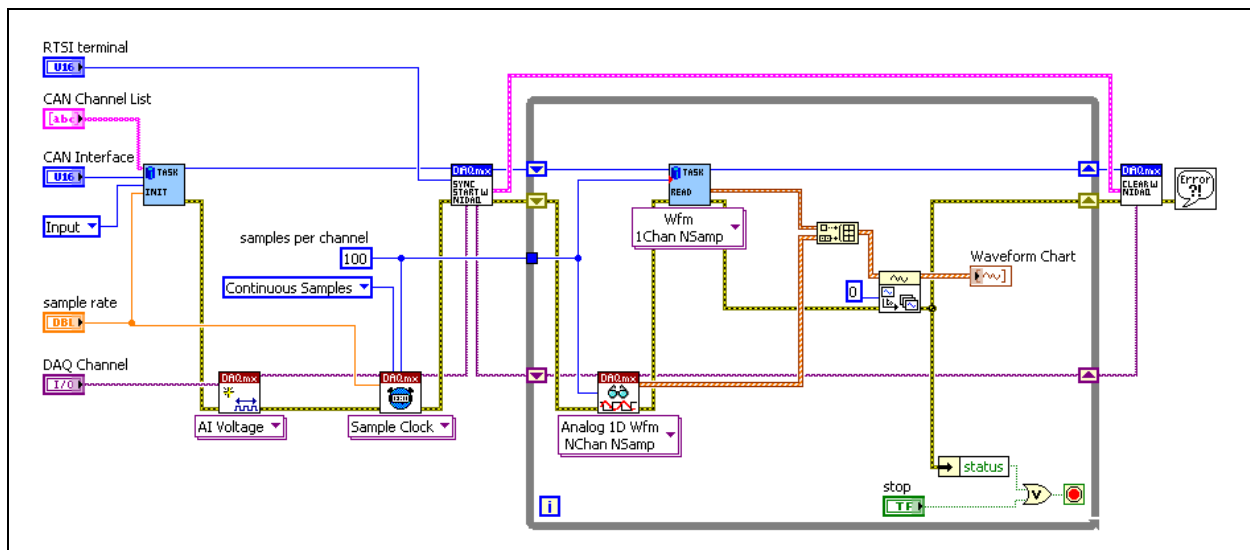

Figure 1-21. Sync CAN & DAQ VI Block Diagram
3. Explore the block diagram shown in Figure 1-21. Notice that this VI reads from both the CAN and DAQ interfaces and uses RTSI to synchronize the timing.